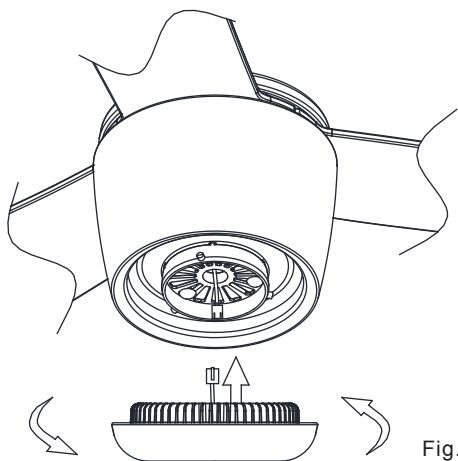

Fig.3
1. Firmly snap the wire connection plugs together. (Fig.3)
2. Attach the light kit assembly to the light kit housing by turning clockwise until snug. (Fig.3)